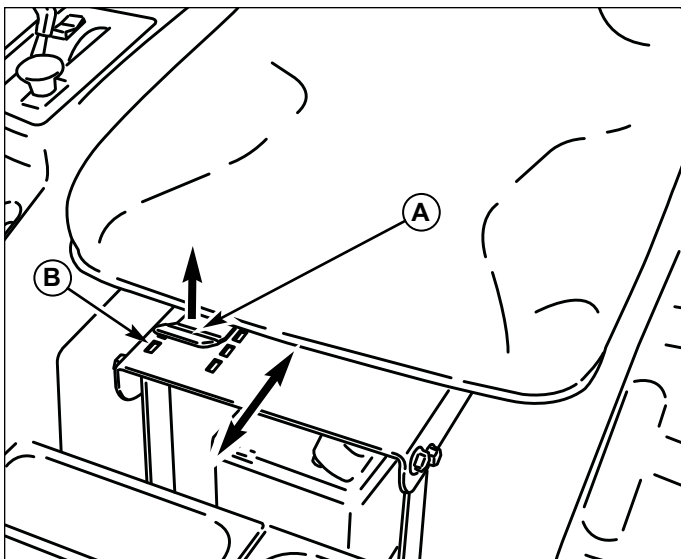

Figure 13. Seat Adjustment
Lift the seat adjustment lever (A, Figure 13). Slide the seat forward or backward to the desired position, then lower the seat adjustment lever. Make sure the lever locks into the locking slots (B) in the seat base.